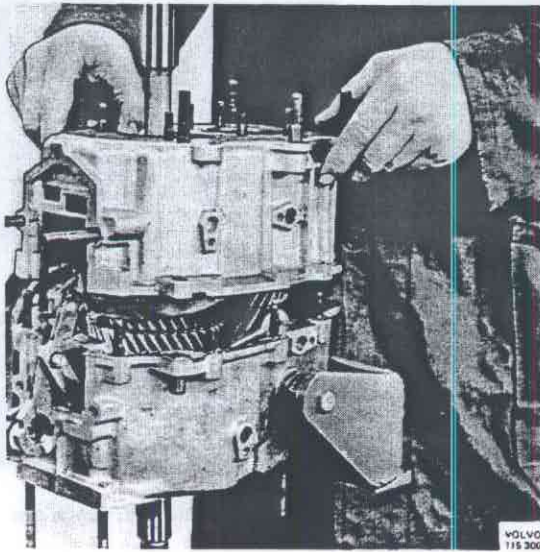

Fig. 43-59. Removing housing half
19. Remove the front housing half, Fig. 43-59. Remove the lock pin and spring for 3rd-4th synchronizing.